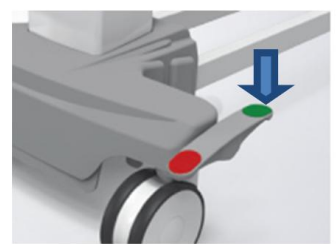

Figure 9c. Transport Position
3. Transport Position: Lift the brake pedal to the upper position, as shown in Figure 9c, to engage the transport mode. In this position, three wheels are free, and one wheel remains fixed for controlled movement.